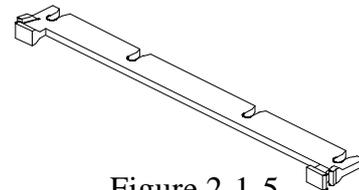

Figure 2-1-5
- **HSS Top Bar (HSSTOP)**- Plastic bar that clips onto the HSSBASE through the fins on the ATX heat sink. (Refer to Figure 2-1-5)